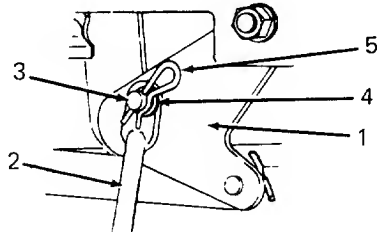

Figure 45
3. Secure each of the front lift links to the lift carriage lift pins using a flat washer and hairpin cotter. (Refer to Figure 45.)